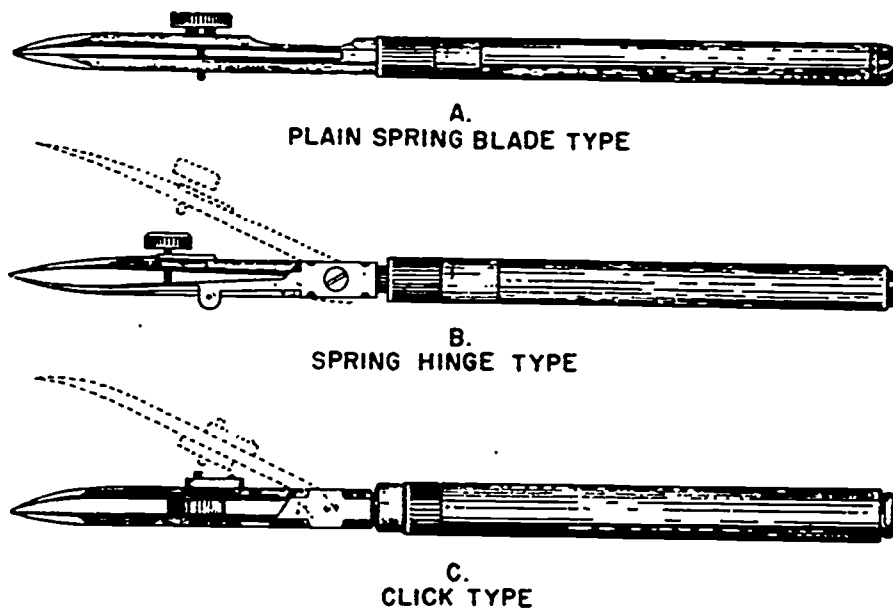

Figure 2-21. Ruling pens.
**Ruling Pens.** A ruling pen consists of two steel blades attached to a handle. It is used to make straight ink lines of uniform thickness. The standard ruling pen, shown in figure 2-21, A, has an adjustable spring blade. A screw running through a hole in the adjustable blade screws into the stationary blade and is used to adjust the gap between the ends of the blades, which are called *nibs*. The width of the gap determines the thickness of the line that the pen will produce. Never tighten the screw far enough to bring the blades tightly together because to do so might bend the nibs and ruin the pen. The adjusting device also allows you to open the blade so that you can clean inside the nibs. Before you put the pen away, you should loosen the screw to relieve the spring tension.
The two other types of ruling pens, shown in B and C of figure 2-21, have hinged blades that allow the pens to be opened, cleaned, and snapped back into place without changing the width of the setting. These types of blades are very handy when you have a great deal of inking to do.